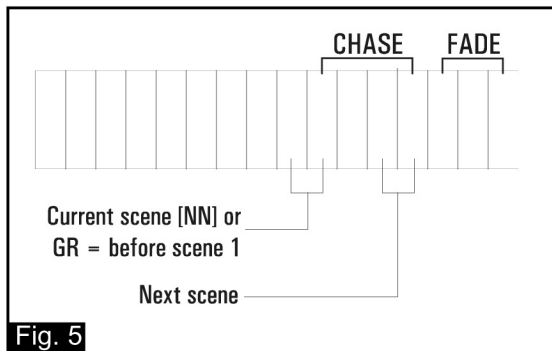

Fig. 5
2. Press a flash button to start one of the six chases. If it has been previously saved as a stack, step 1 will be output if the STACK MASTER is at 0. If the STACK MASTER is at 100%, the desk enters a wait-state, indicated by 'GR 01' in the display: this allows you to manually fade in the first scene by moving the stack master towards 0, see Fig. 5 below. Note that, until you reach 0%, you may reverse the fader back towards 100% and consequently re-establish the previous scene (or the wait-state) as the output step. However, once you reach 0, any movement back towards 100% will advance you towards step 2 but until you hit 100%, you may reverse back into step 1.